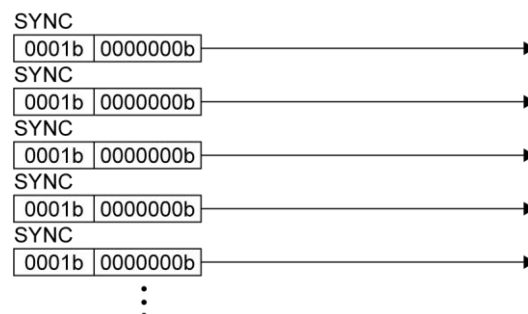

Figure 5.15 Example of SYNC Without Counter Value Field
- To enable the SYNC producer without a counter value, set the Synchronous counter overflow value to 00h. Refer to Figure 5.15 for an example of an operation.